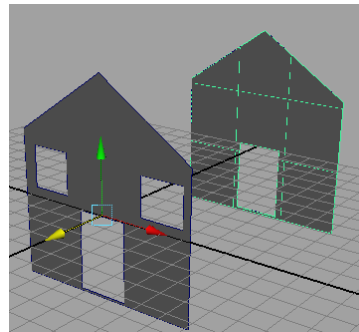

**Figure 3-105** The profile curve for the front and back parts of the house
4. Select the profile curves for the door and the house. Choose **Edit > Duplicate** from the menubar; the selected parts are duplicated. Next, choose **Move Tool** from the Tool Box and maximize the persp viewport. Move the duplicate parts to the back in the persp viewport, as shown in Figure 3-105.